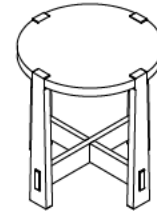

Figure 1
1. Turn the table top upside down on to a clean soft surface. Attach two stretchers together with Screw (G) by the ScrewDriver (not Provided) as shown in Figure 1.